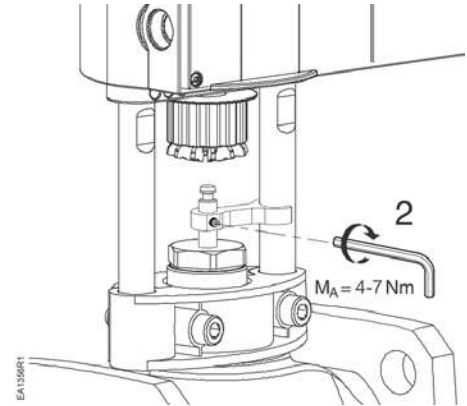

Figure 8.
- Use a 2.5 mm hex wrench to tighten the anti-rotation device set screw to 35 to 62 in-lbs (4 to 7 Nm). See Figure 8.